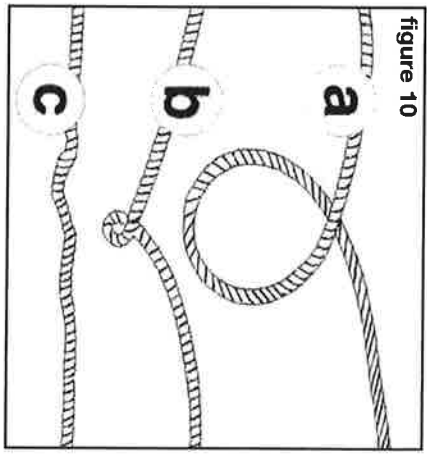

Figure 10
5. PRÉVENEZ LES PLUIRES AVANT QU'ELLES NE SURVIENNENT (figure 10)